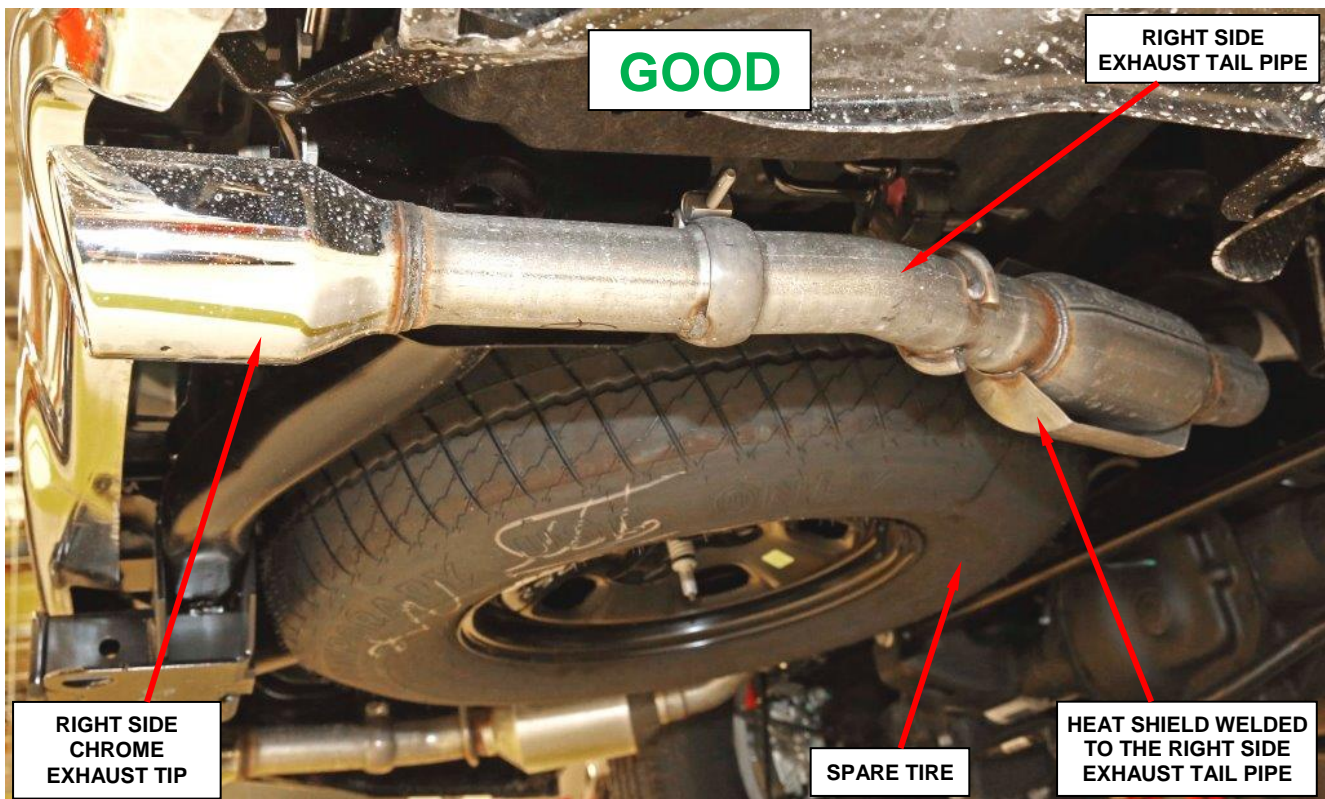

Figure 1 – Heat Shield Welded to Right Exhaust Tail Pipe
- If the right side exhaust tail pipe has a welded on heat shield, no further action is required (Figure 1). Lower the vehicle from the hoist and return the vehicle to the customer.